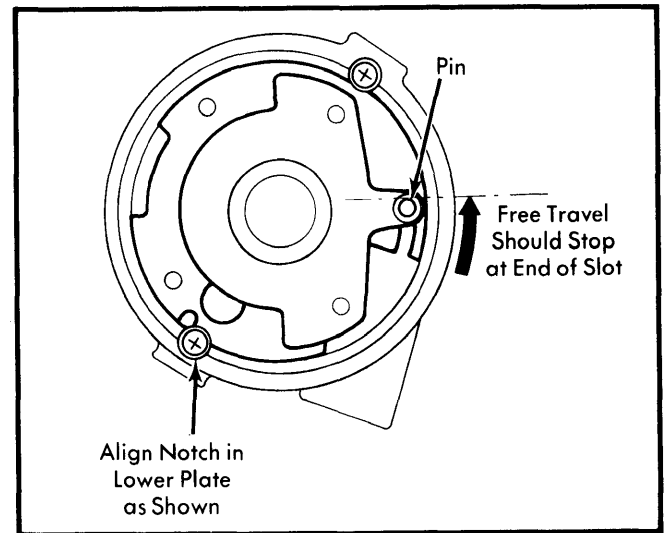

Fig. 10 Installation of Breaker Plate to Distributor Housing
4) Align breaker plate in distributor housing. See Fig. 10. Check that upper plate moves freely. Be sure diaphragm arm attachment pin does not rotate past end of slot in lower plate.